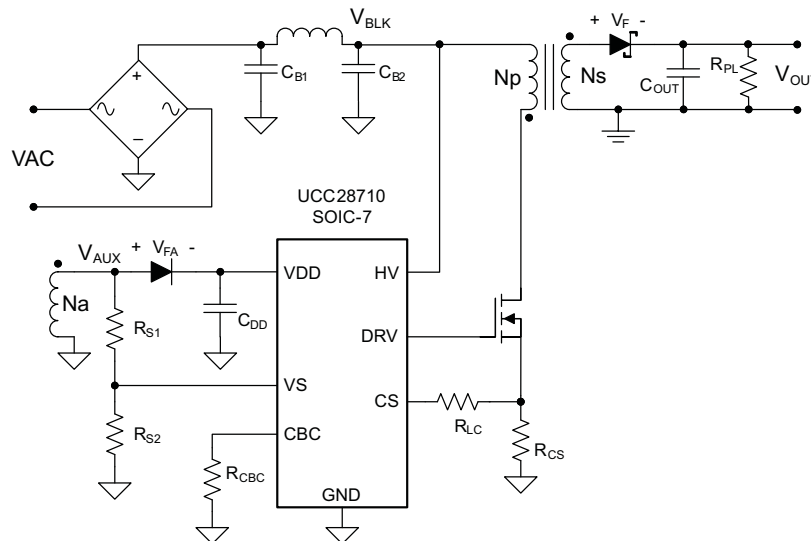

Figure 20. Design Procedure Application Example
The UCC2871x family of flyback power supply controllers provides constant voltage (CV) and constant current (CC) output regulation to help meet USB-compliant adaptors and charger requirements. These devices use the information obtained from auxiliary winding sensing (VS) to control the output voltage and do not require optocoupler/TL431 feedback circuitry. Eliminating the optocoupler feedback reduces component count and makes the design more cost effective. Refer to Figure 20 for details.
This procedure outlines the steps to design a constant-voltage, constant-current flyback converter using the UCC2871x family of controllers. Refer to the typical application schematic for component location (Figure 20) and the Definition of Terms section for variable definitions.